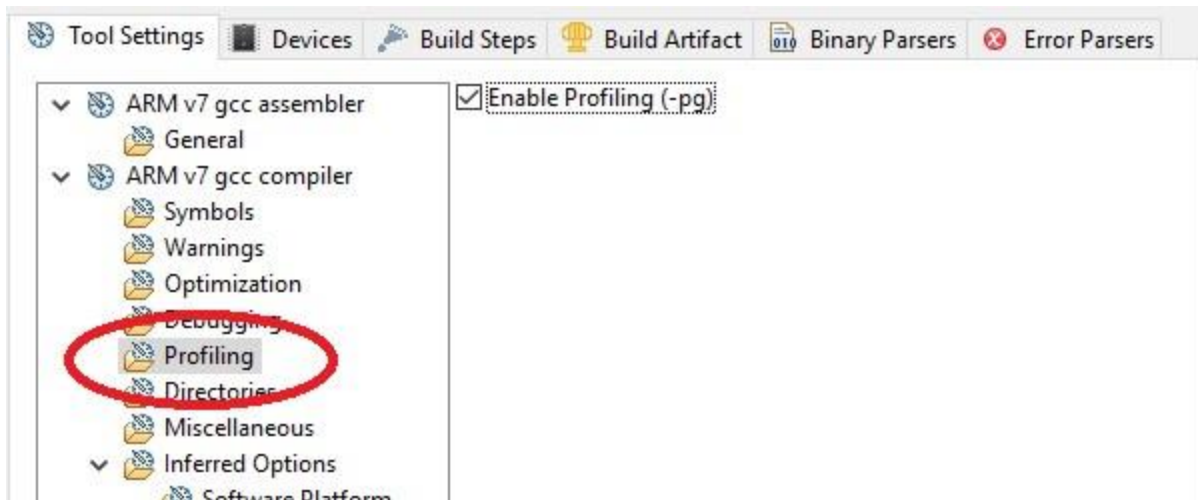

Figure 40: Compiler setting to enable profiling.
5. Under the **ARM gcc compiler** group, select the **Profiling** subgroup, then check the **Enable Profiling** box, and click **OK** (Figure 40).